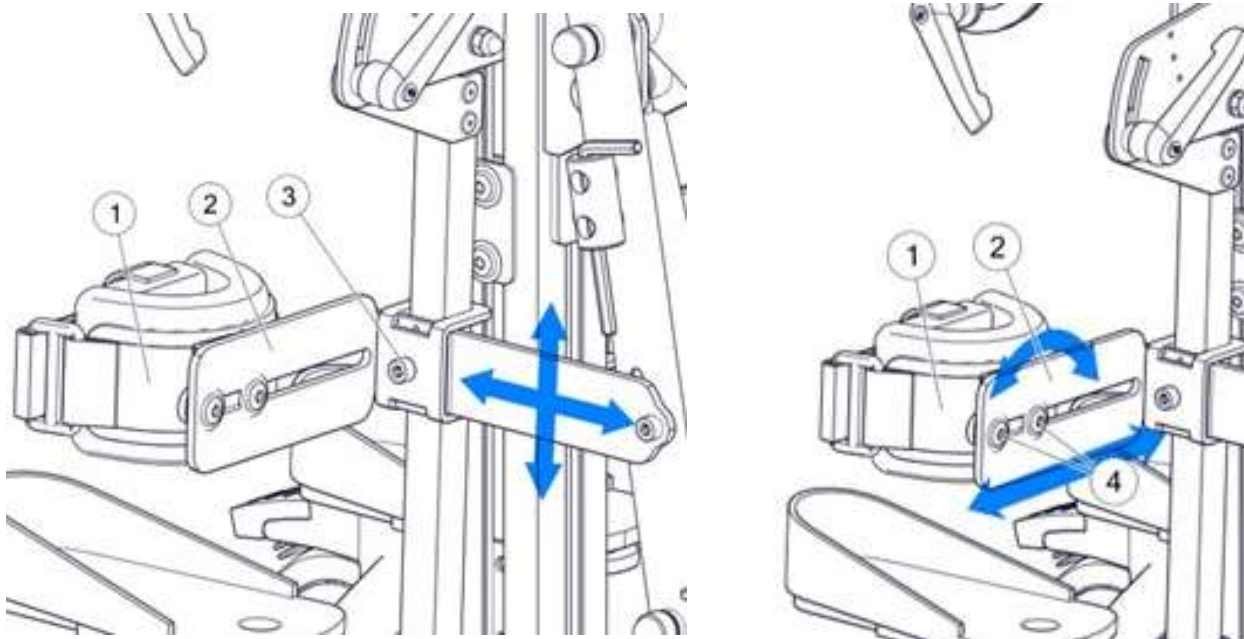

Fig. 12
Fig. 12 Adjust the knee supports setting (1) by loosening the screws (3) and then moving the knee pad holder (2) to the desired position. Horizontal position and knee pad rotation (3) can be set after loosening the screws (4). After completing the adjustment, tighten all screws.